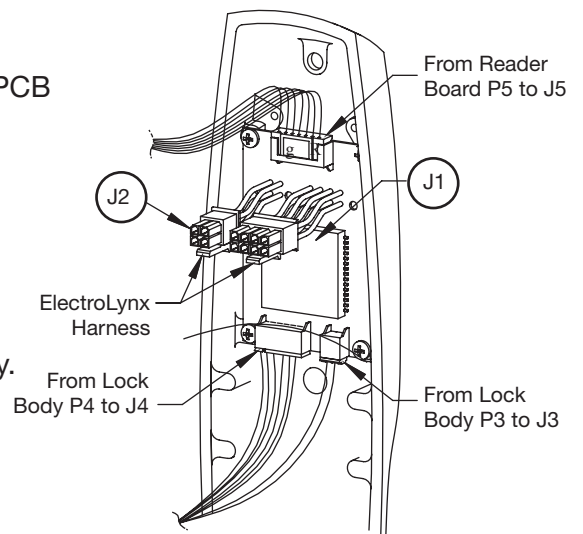

Fig. 8
- a. Connect P3 (2 Pin Connector) from trim to J3 on interior PCB assembly (Fig 8).